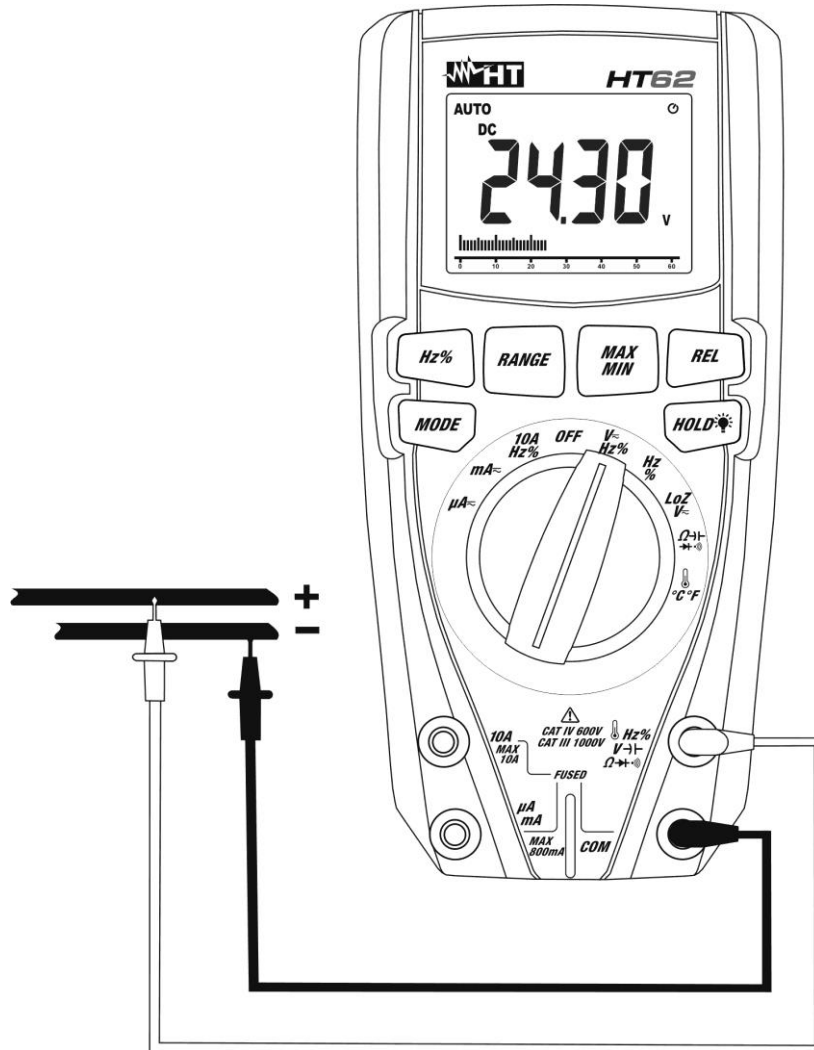

Fig. 2: Use of the instrument for DC voltage measurement
4. Position the red lead and the black lead respectively in the spots with positive and negative potential of the circuit to be measured (see Fig. 2). The display shows the value of voltage.
6. When symbol "-" appears on the instrument's display, it means that voltage has the opposite direction with respect to the connection in Fig. 2.
4. Position the red lead and the black lead respectively in the desired spots of the circuit to be measured (see Fig. 4) for AC voltage measurement or in the spots with positive and negative potential of the circuit to be measured (see Fig. 2) for DC voltage measurement. The display shows the value of voltage.